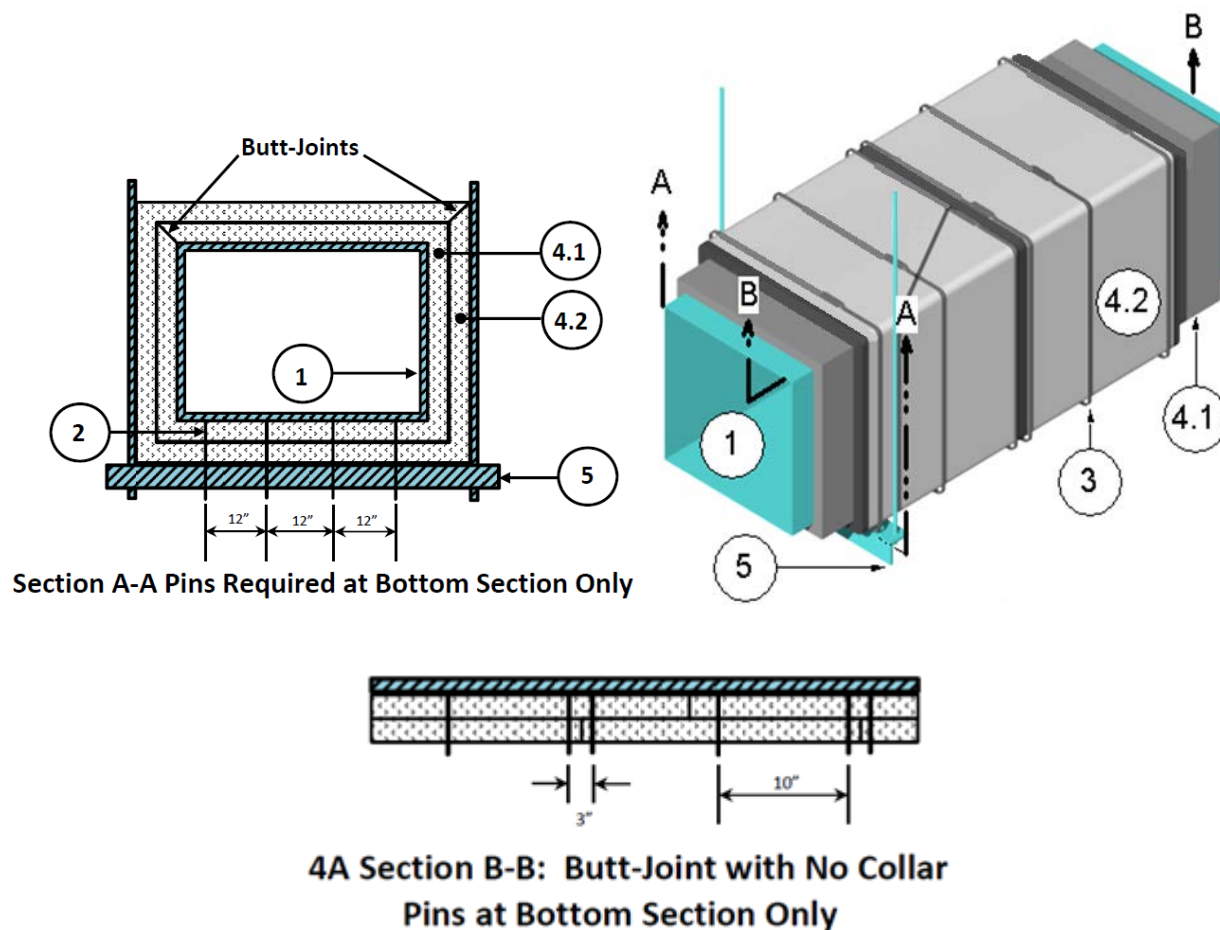

Figure 1
2. **PINS:** (Not required when grease duct (Item 1) width and height are both less than or equal to 24 in.) Refer to Figure 1. Use min. 12 GA, 5 in. long, steel insulation pins or min. 12 GA, steel cup head insulation pins. Weld pins to the grease duct (Item 1) before application of first layer of duct insulation (Item 4).
- A. **BUTT JOINT (No Collar)** – Refer to Figure 1, 4A Section B-B. Locate pins on the bottom side of the grease duct (Item 1), and meet the following requirements:
- i. Space pins max. 12 in. apart in rows parallel to the longitudinal axis of the grease duct (Item 1). Locate pins max. 6 in. from sides or edges of the grease duct (Item 1). Refer to Figure 1, Section A-A.
- ii. Space pins 3 in. apart centered directly over each outer layer transverse joint, and a max. 10 in. apart elsewhere along the length of the grease duct (Item 1). Refer to Figure 1, 4A Section B-B.
DUCT INSULATION: Apply two layers of the nominal 1-1/2 in. thick, 6 pcf density duct insulation over the entire surface of the grease duct (Item 1). Apply both layers of duct insulation with transverse and longitudinal joints butted to form a 1 in. compressed butt joint (created using an initial 1 in. overlap). Locate inner layer longitudinal joints (Figure 1, 4.1) at a corner of the grease duct (Item 1). Offset the outer layer joint (Figure 1, 4.2) to a different corner. Use blanket, available in various widths, that is fully encapsulated with a polypropylene-foil scrim. Cover all visually-exposed ends and edges of duct insulation with nominal 3 in. wide aluminum foil tape.